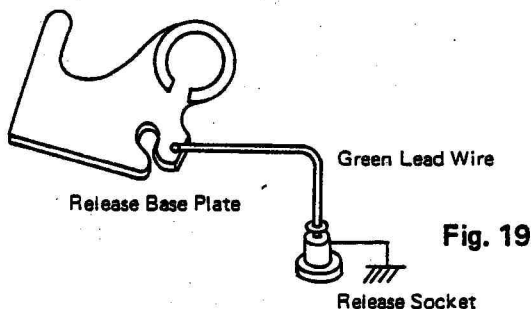
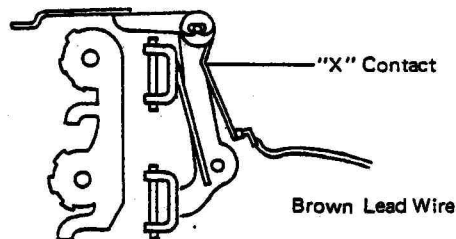

Fig. 19
Fig. 20
(2) Disassembling of the Shutter Mech. Ass'y from the Camera Body
- a) Unsolder green lead wire from R. Socket at Release Base Plate (fig. 19) and a brown lead wire at "X" contact (fig. 20).